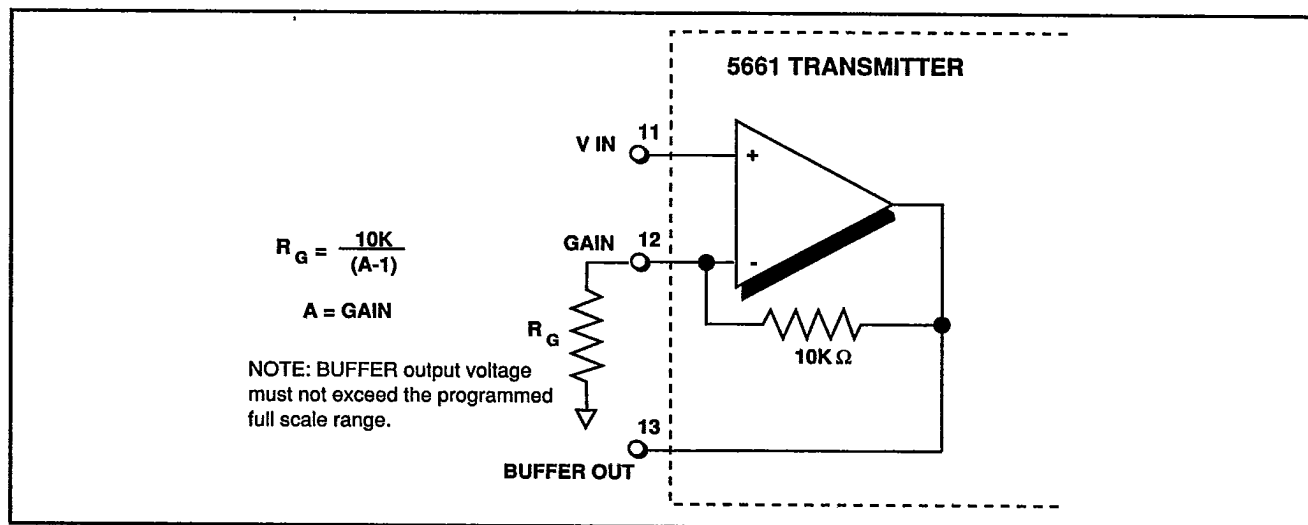

Figure 3. Transmitter Gain Setting
The internal input buffer is factory adjusted for unity gain. To use this buffer to provide gain for the input signal, a resistor with less than 50ppm temperature coefficient is connected between the GAIN pin (12) and ground as shown in Figure 3. The tempco of this resistor directly affects the gain and offset tempco of the link. The value of this resistor is calculated from the formula: